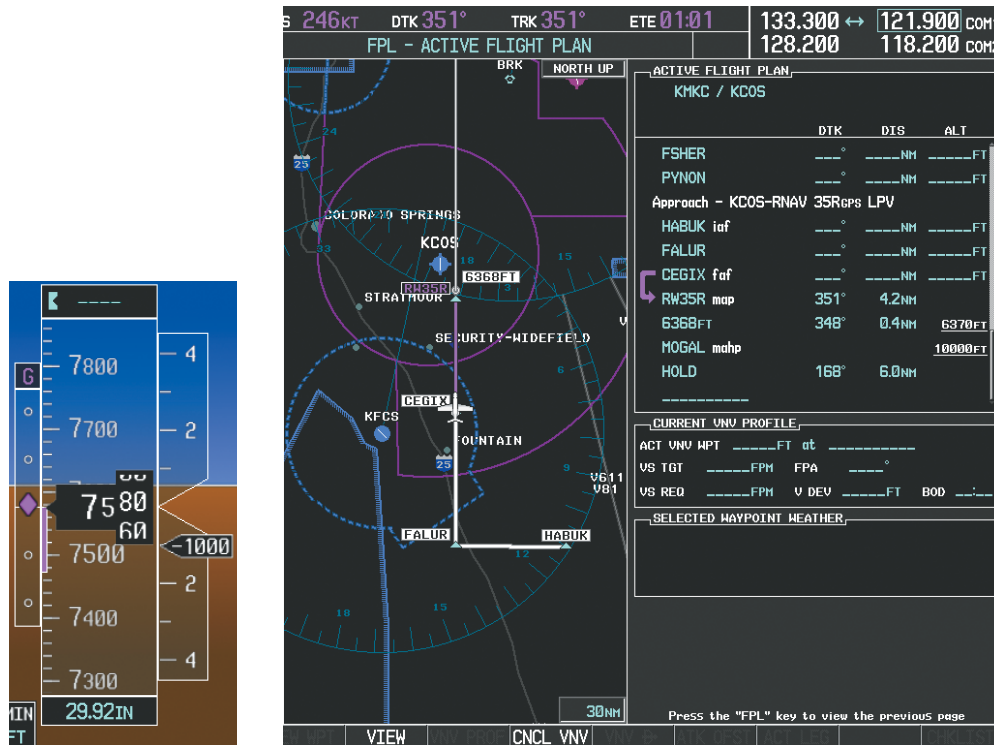

Figure 5-143 Descending to the Missed Approach Point
- 24) After crossing CEGIX, the aircraft continues following the glidepath to maintain the descent to "AT or ABOVE" 6,370 feet at the Missed Approach Point (MAP) (RW35R) as seen in Figure 5-143.